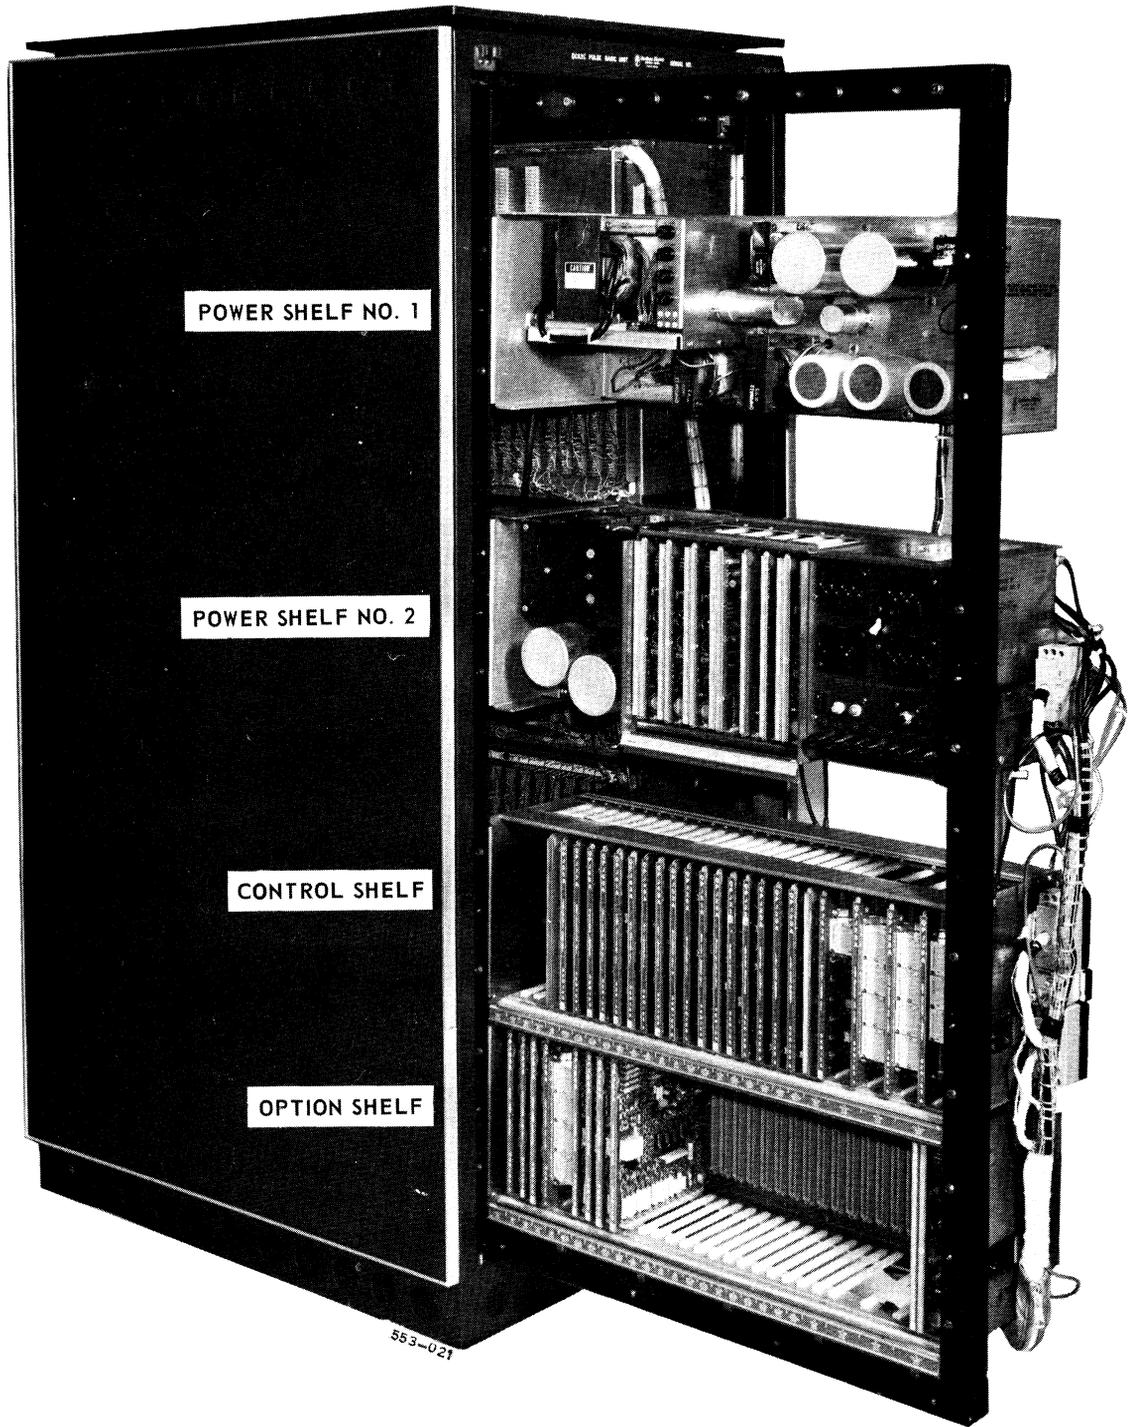

Fig. 3 — Shelf Positions on Slide No. 1
3.14 Each of the shelves is 10 inches (25,cm) high, 28 inches (71 cm) wide; and 10 inches (25 cm) deep. They are mounted in the slides with the back-plane wiring towards the inside or center of the cabinet. A view of the shelf positions seen from the front of the cabinet is shown in Fig. 3 and 4.
3.18 The option shelf position on slide no. 1 (Fig. 3) can be used for either a fully wired shelf or a subshelf type. When the subshelf type is installed the code restrictor and DIGITONE-to-dial pulse conversion features cannot be provided.